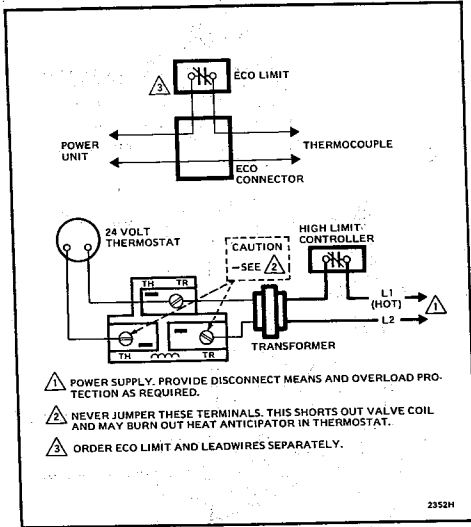

Fig. 6—Typical wiring for 24 V system.
connections. On systems with 24 V valve operator, NEVER apply a jumper across (or short) the valve coil terminals, even temporarily. See Fig. 6. This may burn out heat anticipator in thermostat.
2. Connect leads to operator terminals as shown in Fig. 6.